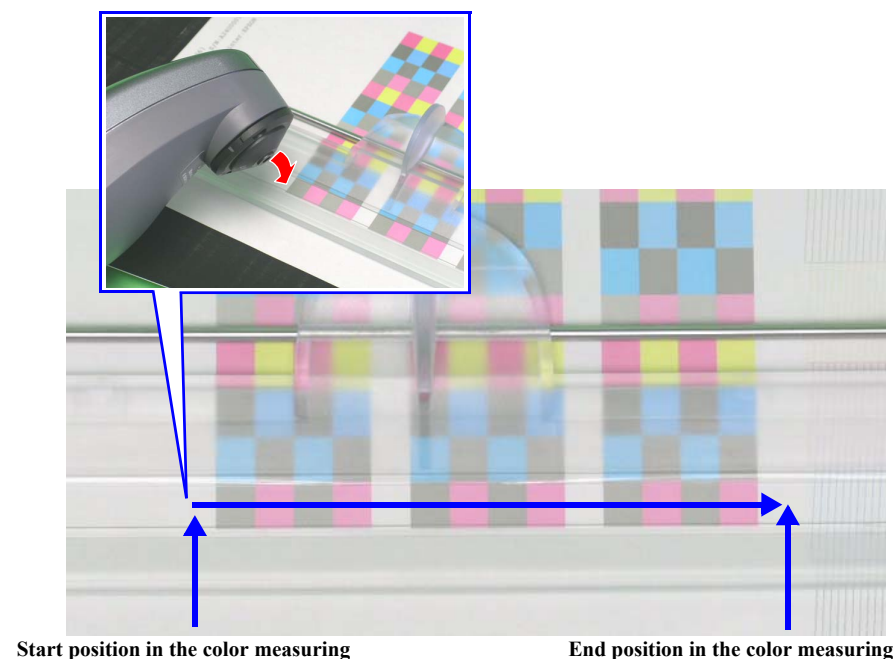

Figure 5-72. Setting the Calibrator/Measuring Position
1. Set the calibrator with its measuring part matched with measuring start position (margin) as shown in Figure 5-72.
- Do not scan any places other than the one shown in Figure 5-72.
1. Set the calibrator with its measuring part matched with measuring start position (gray part) as shown in Figure 5-72.